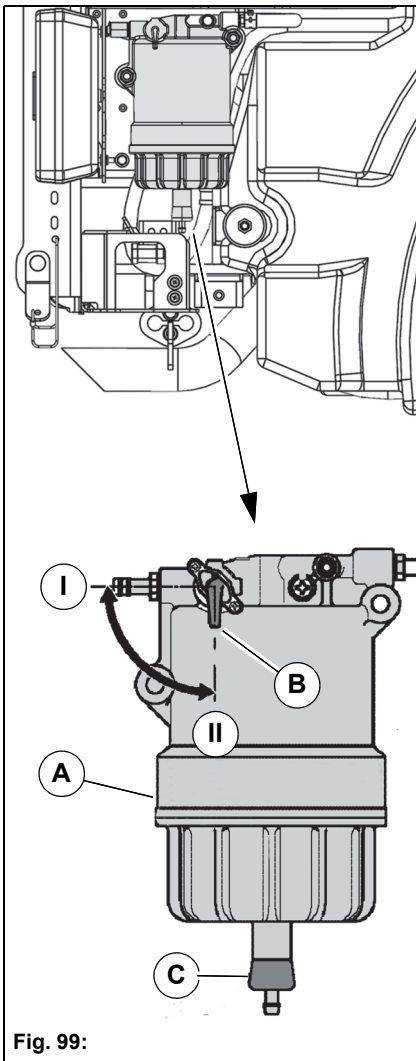

Fig. 99:
Check the water trap **Fig. 99-A** weekly and drain the condensed water out from the water trap if required.
4. Close the fuel valve **Fig. 99-B** by turning it into position **Fig. 99-I**.
5. Open the drain valve **Fig. 99-C**. Let the accumulated water drain off.
7. Open the fuel valve again by turning it into position **Fig. 99-II**.